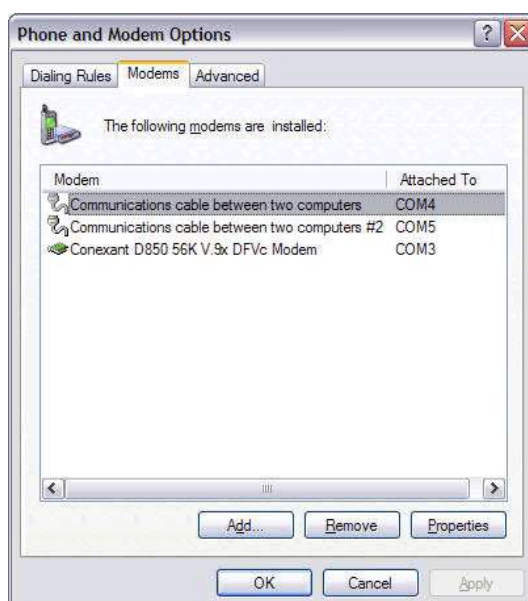

Figure 100: List of installed modem devices (Windows XP)
- d. The modem device should now have been added, and you will be returned to the modem list screen (*Figure 100*). Verify that the newly added modem device is now present.